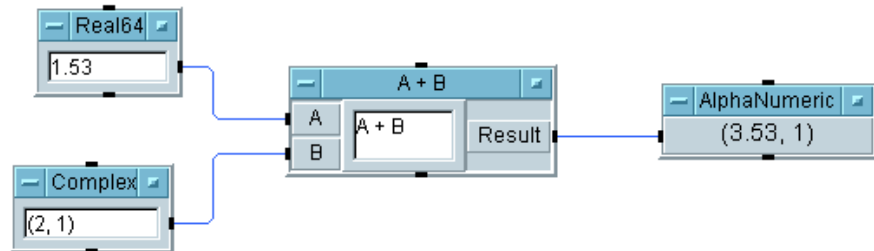

Figure 2-15. Using Data Types
5. Add an AlphaNumeric object by selecting `Display` ⇒ `AlphaNumeric`. Connect the objects as shown in Figure 2-15. Type in the value `1.53` in the data entry field of the `Real64` Constant object and the complex value `(2, 1)` in the `Complex` object. Run the program and you should get the result shown in Figure 2-15.